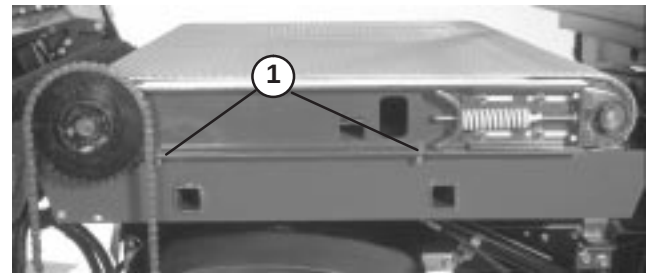

Figure 29
6. Loosen (2) capscrews, washers and nut, on right side of machine, securing slider bed to frame (Fig. 29). Make sure fasteners are loose enough to allow slider bed to be tipped.